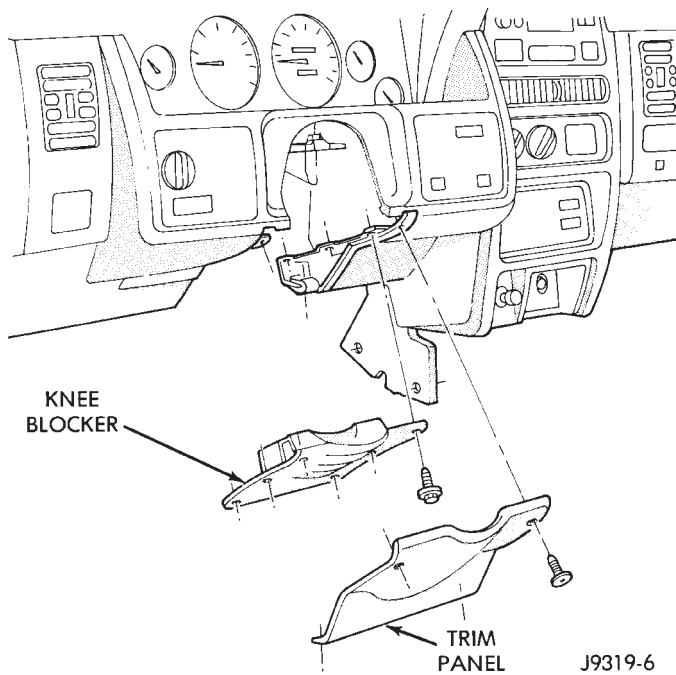
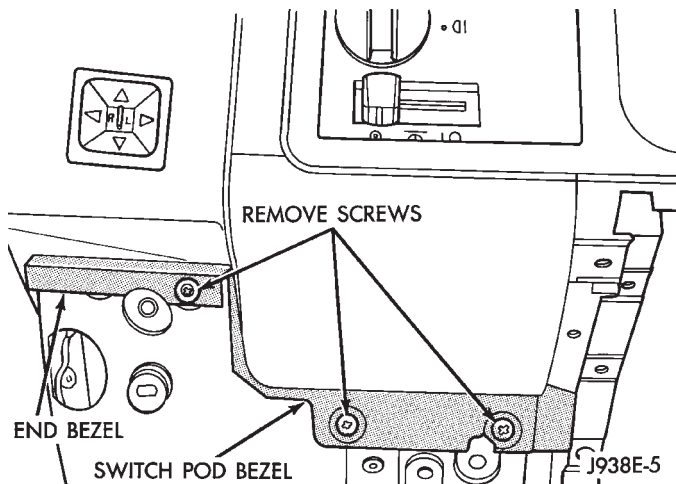

Fig. 5 Steering Column Cover and Knee Blocker
Fig. 6 Remove Screws Holding Bottom Of Bezels
- (13) Remove 4 screws holding the steering column cover (Fig. 5).
- (14) Remove 1 screw from bottom of lower trim panel and pull panel off. There is also a clip holding the panel to the instrument panel.
- (15) Remove 6 screws holding knee blocker.
- (16) Remove steering column retaining nuts.
- (17) Remove 3 screws holding bottom of bezels (Fig. 6).